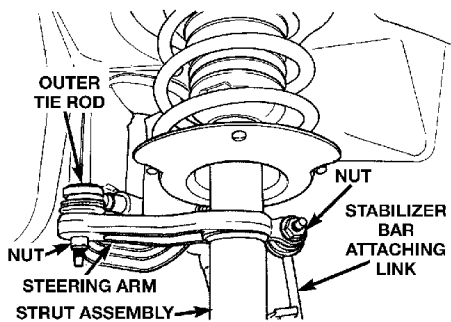

Fig. 3 Strut assembly removal
- c. Remove mounting nut at strut assembly, and remove stabilizer bar attaching link from strut, **Fig. 3**.
- d. Loosen, but do not remove, outer tie rod end to strut arm attaching nut, **Fig. 3**.